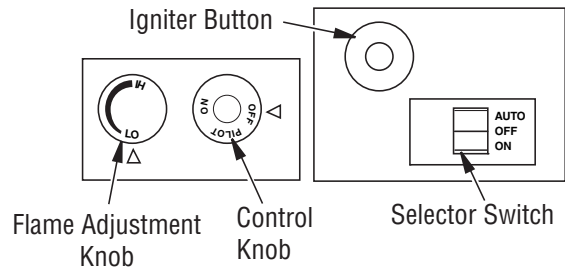

Figure 28 - Control Knob and Igniter Button Location (Shown as Supplied, No Control Options)
- Wait five (5) minutes to clear out any gas. Then smell for gas, including near the floor. If you smell gas, STOP! Follow "B" in the safety information in column 1. If you don't smell gas, go to the next step.
- Press in and turn control knob counterclockwise  to the PILOT position. Press in control knob for five (5) seconds (see *Figure 28*).